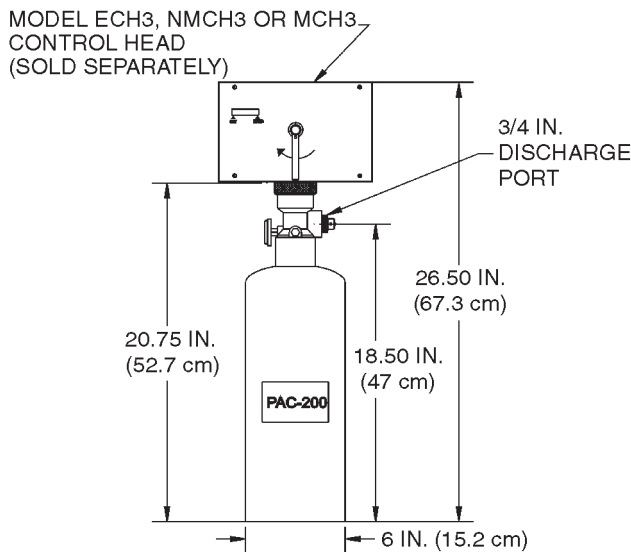

FIGURE 11
The Model PAC-200 is a pneumatic actuating tank that can actuate a maximum of twenty (20) agent tanks simultaneously. The Model PAC-200 includes a DOT 4BA350 tank pressurized with dry nitrogen to 350 psi (24.1 bar) @ 70 °F (21.1 °C), a brass valve with pressure gauge, and a wall mounting bracket. A Model MCH3, NMCH3 or ECH3 control head must be purchased separately and connected to the PAC-200 to open the valve. See Figure 11.